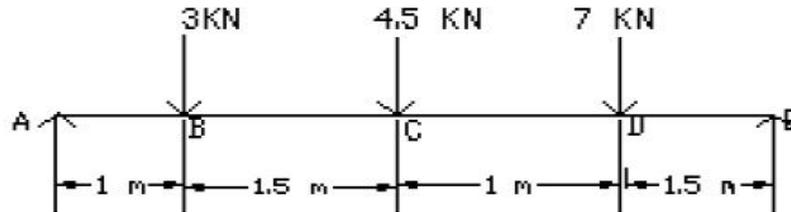

Figure.1
12. A beam freely supported over an effective span of 5 m carries point loads 3 kN, 4.5 kN and 7 kN at 1 m, 2.5 m, and 3.5 m respectively from the left-hand support. Construct the Shear force and Bending moment diagrams for simply supported beam as shown in Figure .1 16 CO2 [K₃]